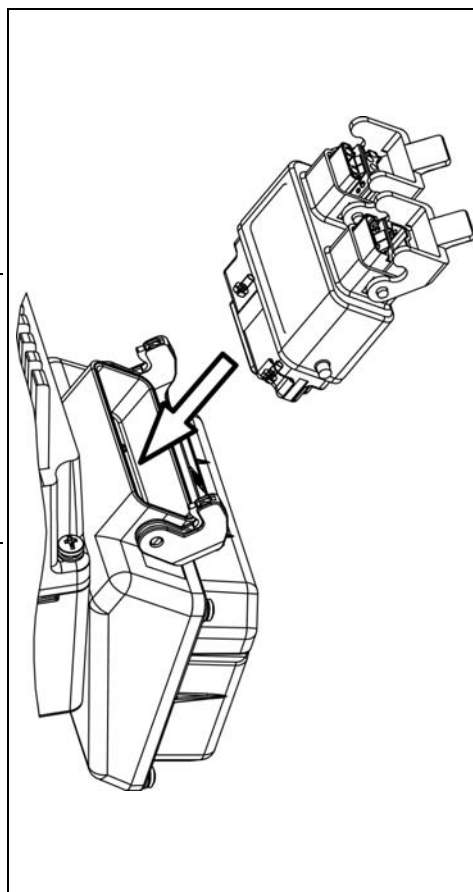
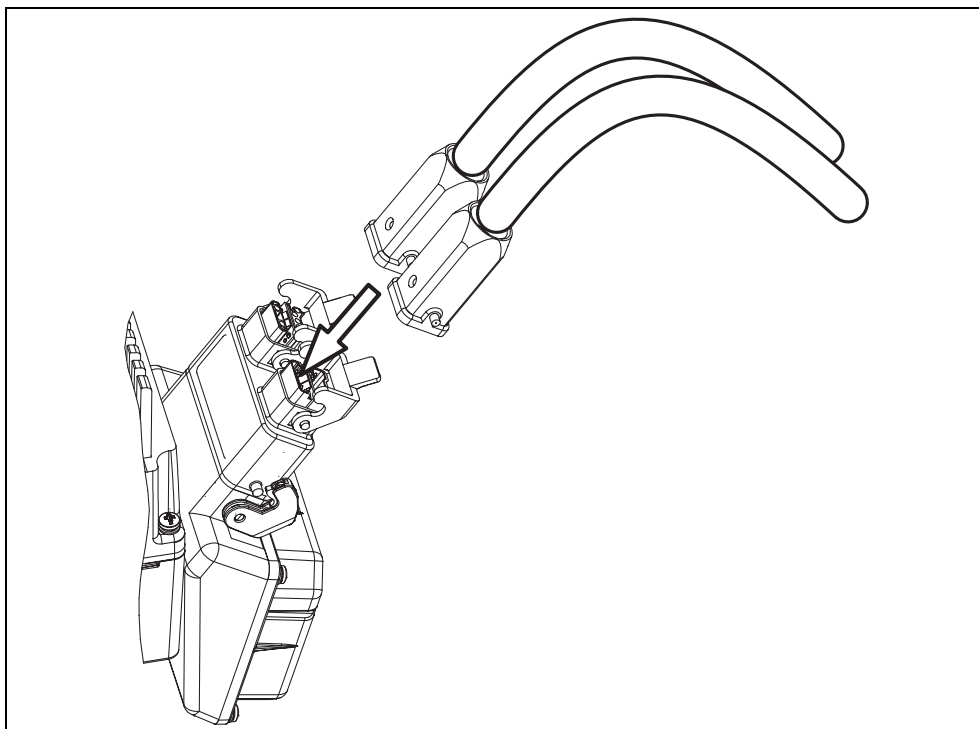
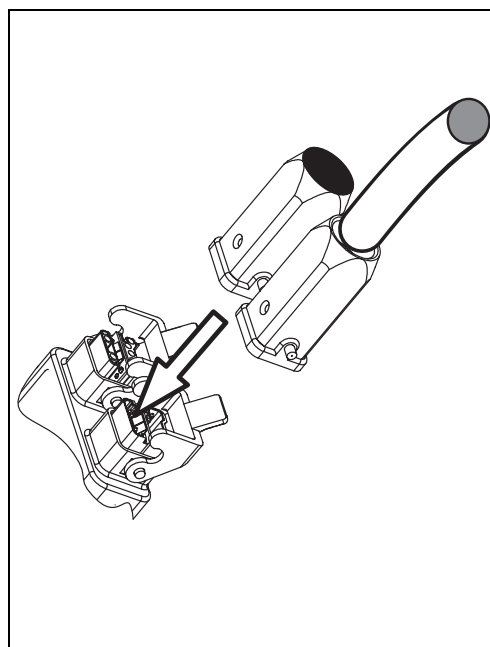

Figure 2-17 PROFIBUS Data T-connector
Figure 2-19 Connecting the Hybrid Cables
Figure 2-20 PROFIBUS Termination
The communications cables are connected to the ECOFAST PROFIBUS Module housing as shown in Figure 2-17, Figure 2-19 and Figure 2-20.
1. Connect the Data T-connector to the PROFIBUS data terminal. See Figure 2-17.
5. Connect the Hybrid Fieldbus cable into the Data T-connector. See Figure 2-19.
8. If the ECOFAST PROFIBUS module is the last in the chain of modules, then connect one Hybrid Fieldbus cable and one bus terminator connector in the remaining data socket. See Figure 2-20.